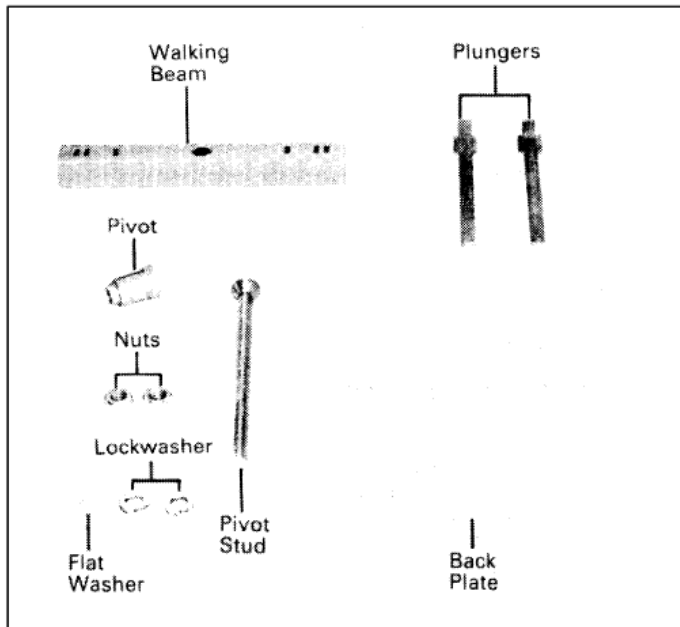

Fig. 1-2. Walking Beam Interlock Kit for F-Frame Series C Circuit Breakers
This instruction leaflet (IL) gives detailed procedures for installing the walking beam interlock. The walking beam interlock in kit form is shown in Fig. 1-2.